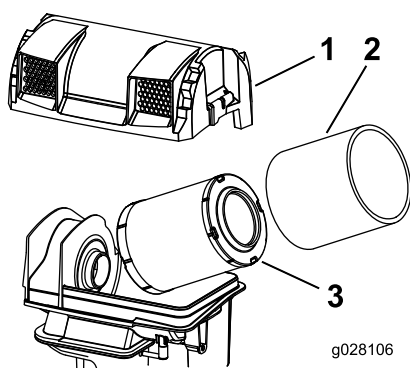

Figure 59
3. Remove the foam and paper elements (Figure 59).
4. Remove the foam element from the paper element (Figure 59).
2. Install the elements onto the air-cleaner base (Figure 59).